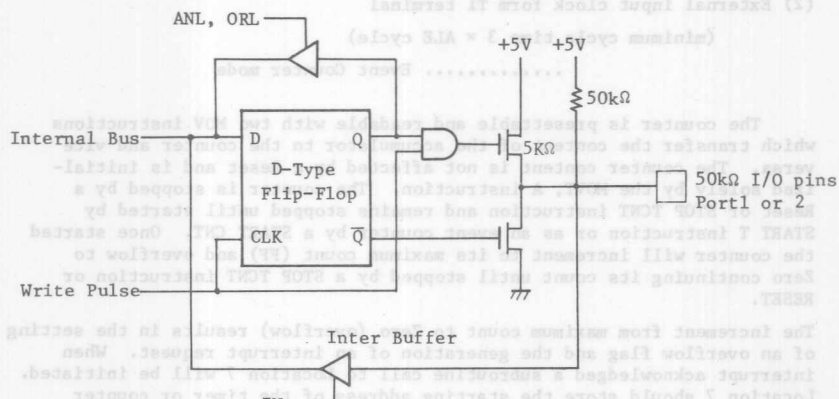

Fig.1 Input/Output Circuit of Port 1, Port 2
(3) Input/Output Ports
- All lines of Ports 1 and 2 are called quasi-bidirectional because of a special output circuit structure (illustrated in Figure 1). Each line is continuously pulled to a +5V level through a high impedance resistive device (50K Ω) which is sufficient to provide the source current for a TTL high level yet can be pulled low by a standard TTL gate thus allowing the same pin to be used for both input and output. In order to speed up the "0" to "1" transition a low impedance device (5K Ω) is switched in momentarily whenever a "1" is written to line. When a "0" is written to line a low impedance device overcomes the pullup and provides TTL current sinking capability.